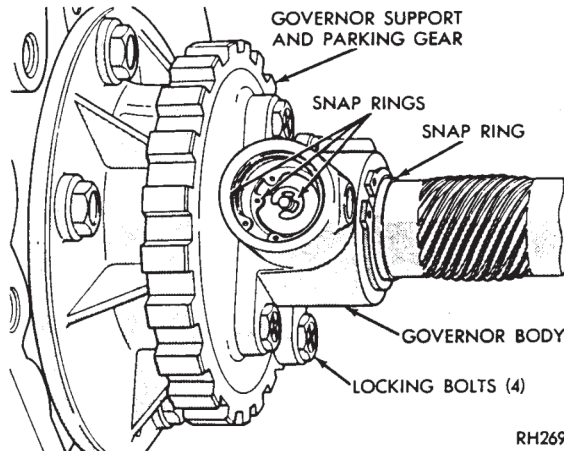
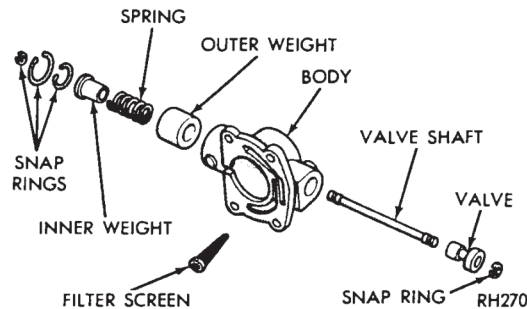

Fig. 10—Governor Snap Rings
Fig. 11—Governor Assembly
(1) Remove extension housing and output shaft bearing as previously described.
(2) Carefully pry snap ring from weight end of governor valve shaft (Fig. 10). Slide valve and shaft assembly out of governor body.
(3) Remove large snap ring from weight end of governor body, lift out governor weight assembly.
(4) Remove snap ring from inside governor weight, remove inner weight and spring from the outer weight. Figure 11 shows a disassembled view of the governor assembly.
(5) Remove snap ring from behind governor body, then slide governor and support assembly off the output shaft. Remove the 4 bolts and separate gover-
Figure 11 shows a disassembled view of the governor assembly.
output shaft. Align assembly so valve shaft hole in governor body aligns with hole in the output shaft, then slide assembly into place. Install snap ring behind governor body (Fig. 10). Tighten the body to support bolts to 95 in. lbs. (11 N·m). The support bolts have a self-locking nylon patch and can be re-used.